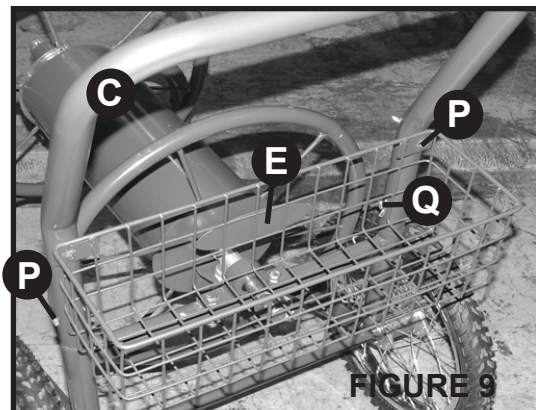

FIGURE 9
9. Attach basket (E) using handle bolts (P) and fasten with wing nuts (Q) to the U-handle (C). Slide the U-handle (C) over the frame extensions and align the holes. Insert handle bolts (P) through the holes in the U-handle and fasten with wing nuts (Q) Hand tighten. See Figure 9